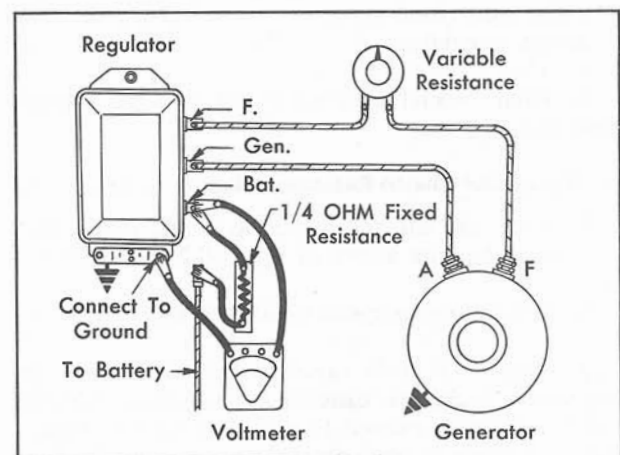

Fig. 12-6 Checking Voltage Regulator
1. To check the voltage regulator properly, the battery must be fully charged to limit the charge rate to 1 to 10 amperes. If above 10 amperes, insert a 1/4 ohm fixed resistor into the charging circuit at "Bat" terminal of regulator in series with the battery, Fig. 12-6.
3. Connect a 25 ohm, 25 watt variable resistance (which has an open position) in field circuit as shown in Fig. 12-6.